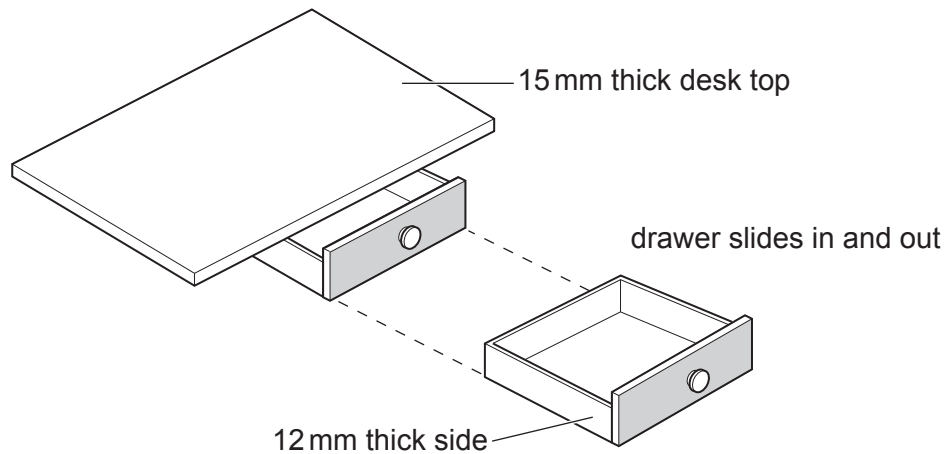

Fig. 9.1
- 9 Fig. 9.1 shows a wooden drawer and the top of a desk.